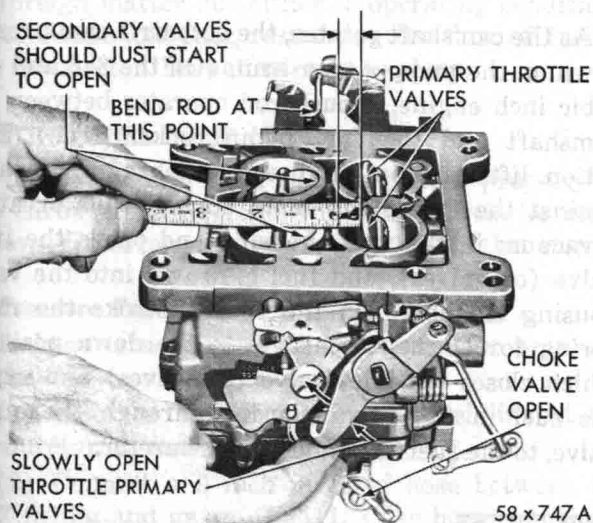

Fig. 73—Checking Secondary Throttle Opening
(1) To check the secondary throttle lever adjustment, block the choke valve in the wide open position and invert the carburetor.
(2) Slowly open the primary throttle valves until it is possible to measure  $\frac{19}{64}$  inch between the lower edge of the primary valve and the bore (opposite idle port) as shown in Figure 73. At this measurement, the secondary valves should just start to open.
(3) The stop lugs on both the primary and secondary throttle levers should contact the bosses on the flange at the same time.